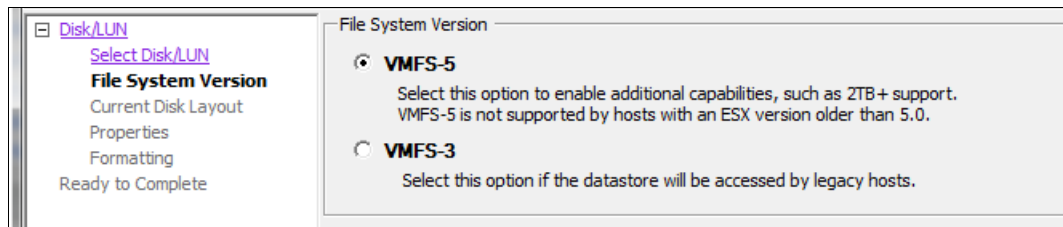

Figure 7-11 File System Version
- c. Select the VMFS version as shown in Figure 7-11 and click **Next**.